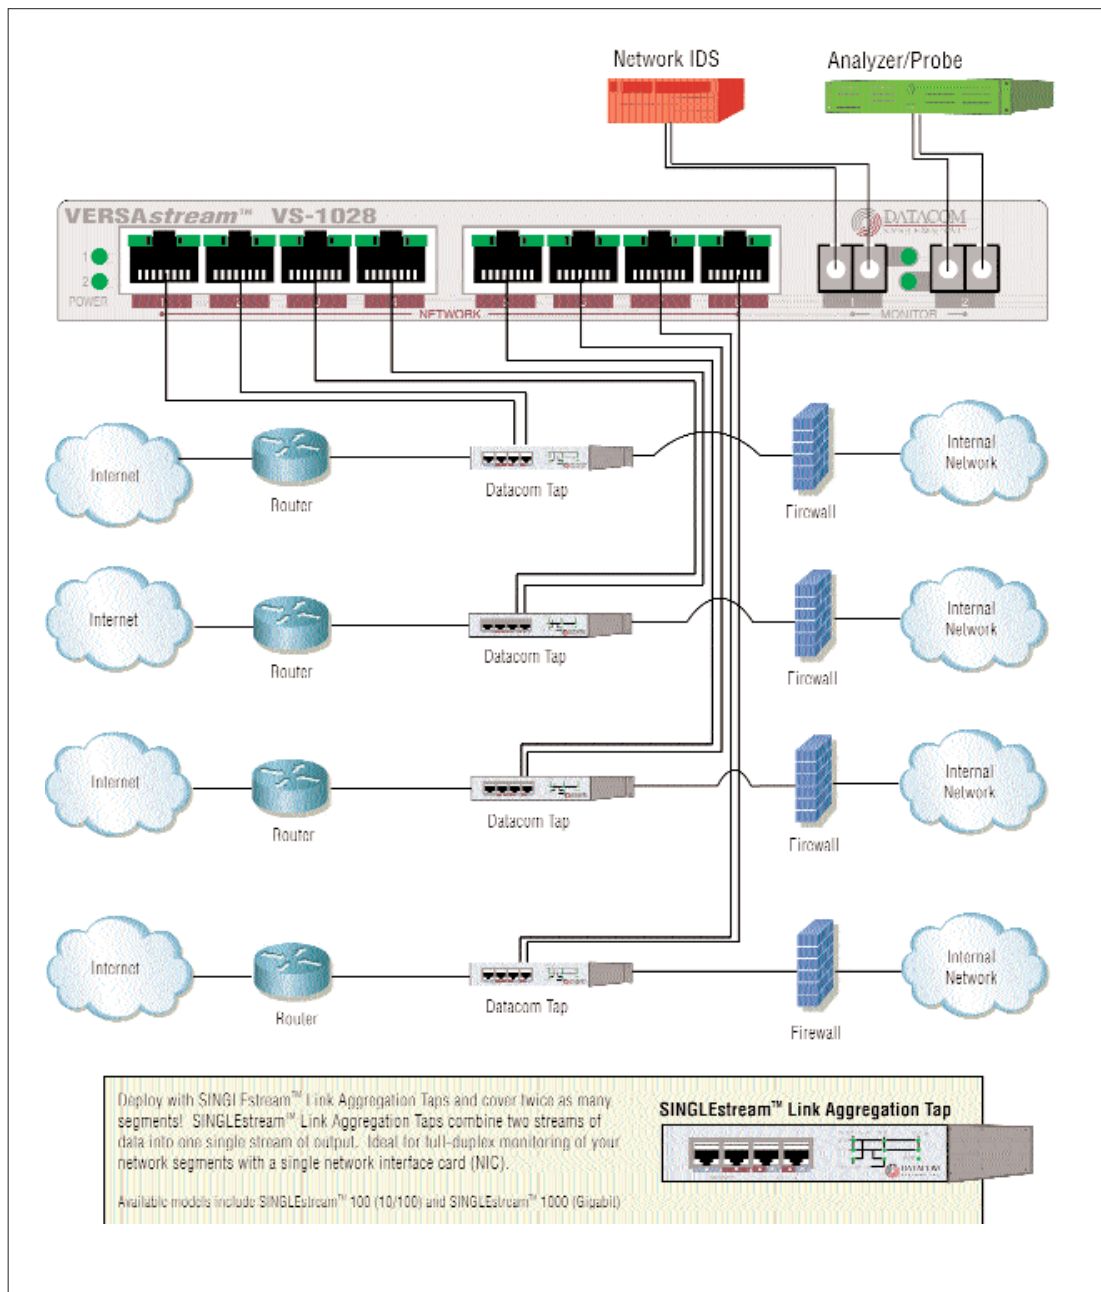

Figure 24 - VS-1028 with Taps Application
**VS-1028 with Taps Application** — shown in **Figure 24**, focuses on a typical VERSAstream™ VS-1028 Multi-Link Aggregator application deployed with Datacom Taps to combine traffic from different network segments and output the aggregated data to either a single network tool or two connected monitoring devices. This VS-1028 is similar to other VERSAstream™ Multi-link series installations:
To connect the VERSAstream™ VS-1028 Multi-link Series aggregator/regenerator, refer to **Figure 24** and follow these steps: